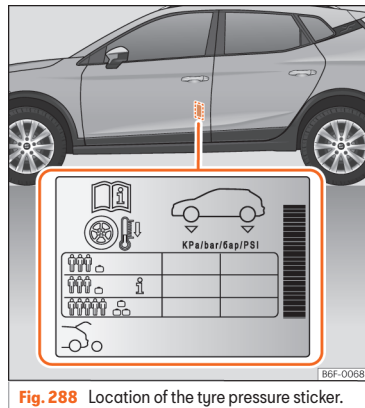

Fig. 288 Location of the tyre pressure sticker.
- Adjust tyre pressure to the load being carried by the vehicle » **Fig. 288**.
The tyre inflation pressures are listed on a sticker on the rear of the front left door frame »» Fig. 288.
Depending on the vehicle, tyre pressure can be adjusted to medium load to improve driving comfort (tyre pressure **i** »» Fig. 288). When driving with comfort tyre pressure fuel consumption may increase slightly.
The tyre pressure must be adjusted according to the load the vehicle is carrying. If the vehicle is going to carry the maximum load, the tyre pressure should be increased to the maximum value indicated on the sticker »» Fig. 288.
pressure of 4.2 bar as indicated on the tyre pressure label »» Fig. 288.
- The driver is responsible for ensuring that all of the vehicle tyres are correctly inflated to the right pressure. The recommended tyre pressure is indicated on the label »» Fig. 288.
- When the tyres are cold, tyre pressure should be that indicated on the label »» Fig. 288.